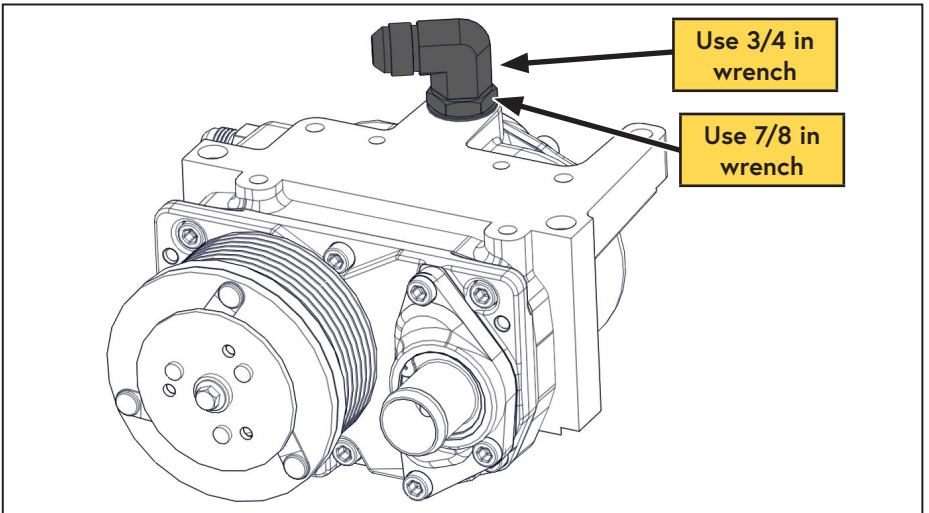

Figure 5 — Compressor discharge fitting
- The compressor discharge fitting will be oriented towards the oil return fitting, use a 3/4 in wrench to hold the fitting and a 7/8 in wrench to ensure the locking nut is tight (Figure 5).